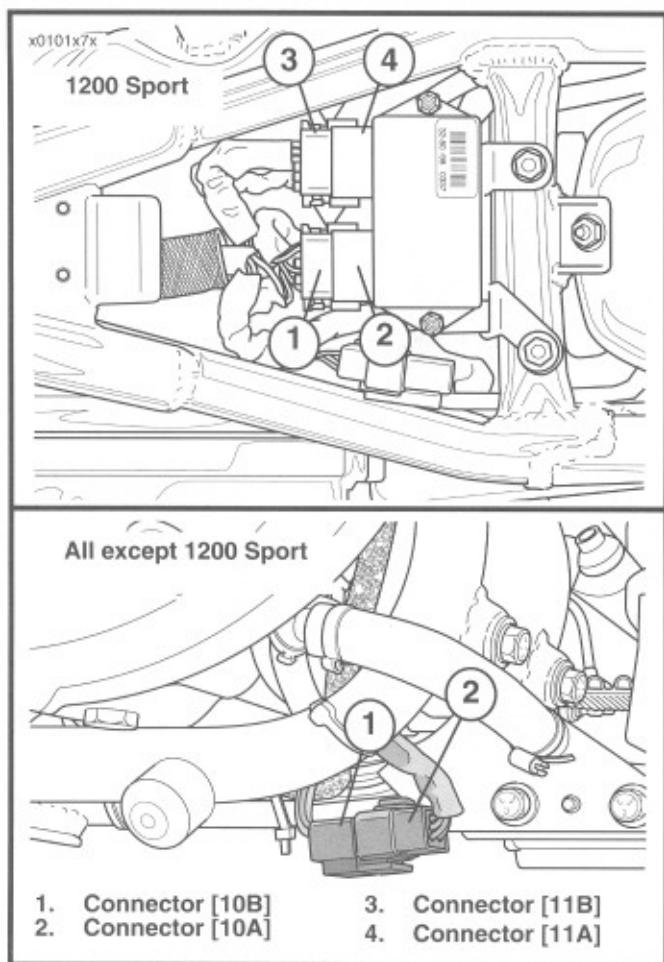

Figure 7-14. Breakout Box Connection
5. See Figure 7-14 and 7-15. On 1200S models, connect the Black male connector from the Breakout Box to Ignition module connector [10B] and connector [10A] from the harness to the black female connector on the breakout box.